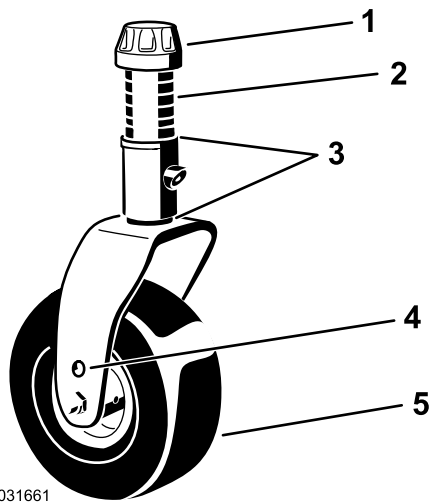
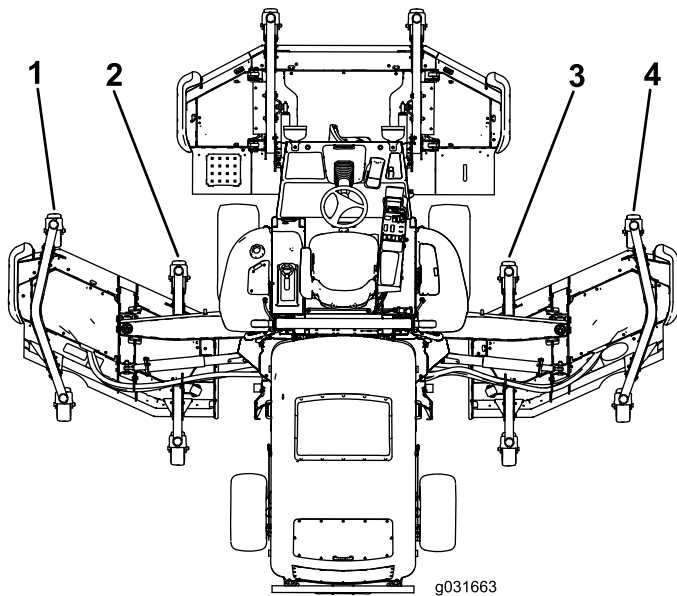

Figure 43
Figure 44
5. If the inside edge of the wing mower deck is too high relative to the outside edge of the front mower deck, remove 1 shim from the bottom of the front, inside caster arm on the wing mower deck (Figure 43 and Figure 44).
6. If the inside edge is still too high, remove an additional shim from the bottom of the front, inside caster arm of the wing mower deck and 1 shim from the front, outside caster arm of the wing mower deck (Figure 43 and Figure 44).
7. If the inside edge of the wing mower deck is too low relative to the outside edge of the front mower deck, add 1 shim (1/8 inch) to the bottom of the front, inside caster arm on the wing mower deck (Figure 43 and Figure 44).